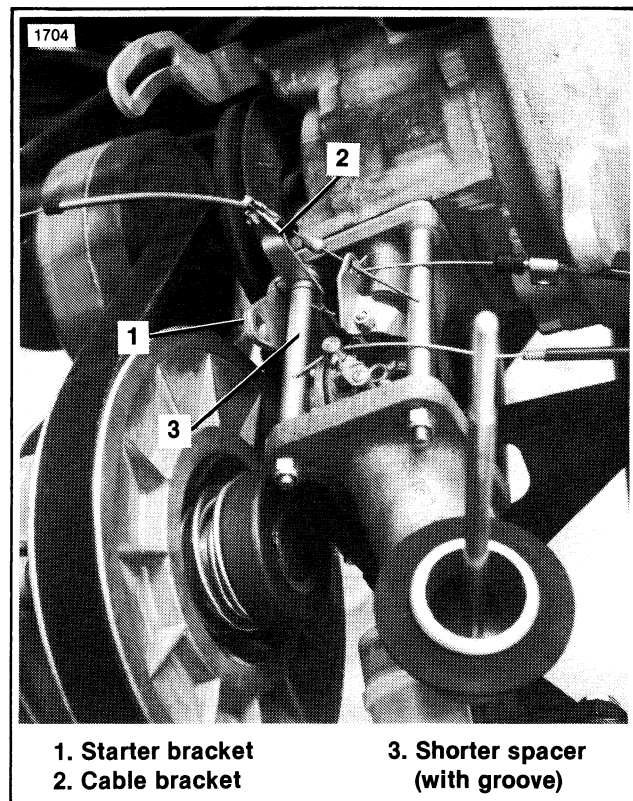

Figure 5-4. Carburetor Mounting
6. See Figure 5-4. Install the starter mounting bracket and cable bracket on the upper rear stud. One of the spacers is shorter than the other three to facilitate the mounting brackets. It is identified by a groove and should be installed in this location.